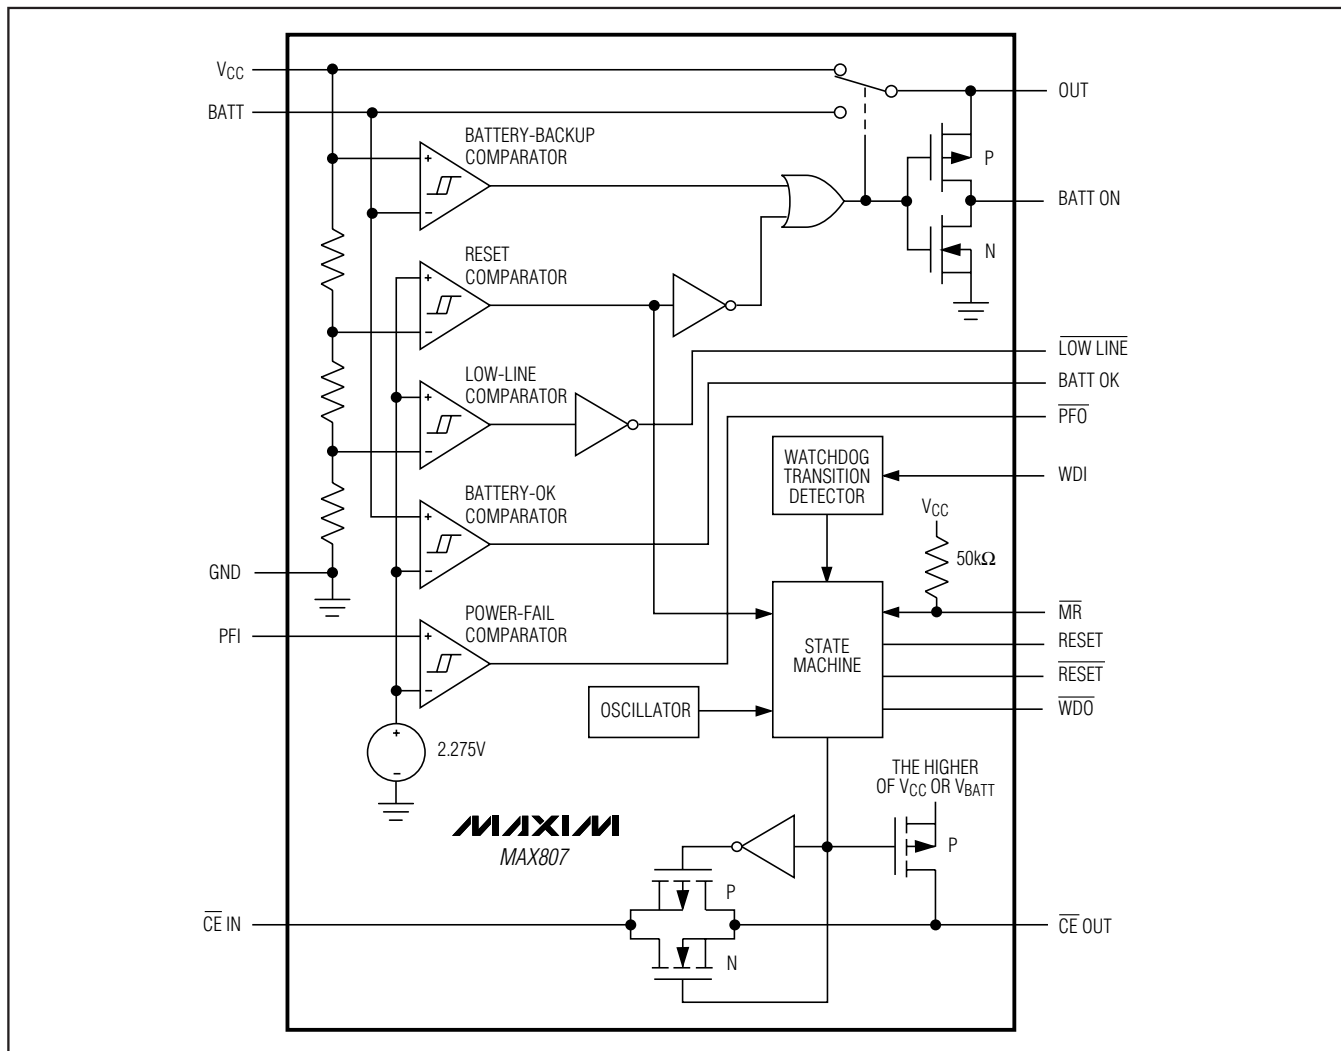

Figure 1. Block Diagram
The MAX807 μ P supervisory circuit provides power-supply monitoring, backup-battery switchover, and program execution watchdog functions in μ P systems (Figure 1). Use of BiCMOS technology results in an improved 1.5% reset-threshold precision, while keeping supply currents typically below $70\mu\text{A}$. The MAX807 is intended for battery-powered applications that require high reset-threshold precision, allowing a wide power-supply operating range while preventing the system from operating below its specified voltage range.
The MAX807 provides internal gating of chip-enable (CE) signals to prevent erroneous data from corrupting the CMOS RAM in the event of a power failure. During normal operation, the CE gate is enabled and passes all CE transitions. When reset is asserted, this path becomes disabled, preventing erroneous data from corrupting the CMOS RAM. The MAX807 uses a series transmission gate from the Chip-Enable Input (CE IN) to the Chip-Enable Output (CE OUT) (Figure 1).